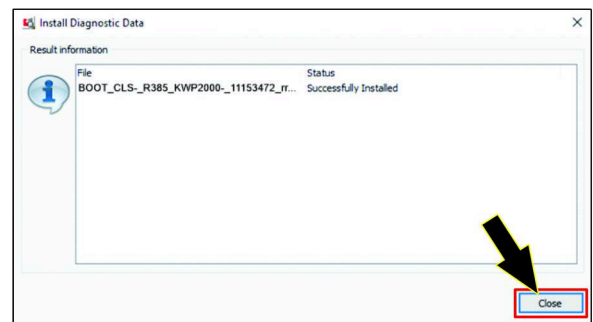

Figure 58
6. In the RESULT INFORMATION dialog box, click the CLOSE icon (Figure 58).